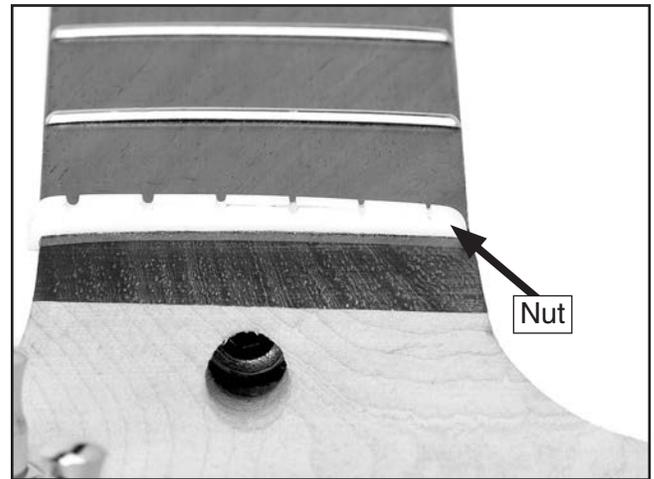

Figure 24. Nut installed.
3. Sand one side of the nut on a piece of sandpaper by hand until it fits snugly into the nut slot, as shown in **Figure 24**. Make sure the large slots on the nut face the top of the neck and the small slots face the bottom of the neck.